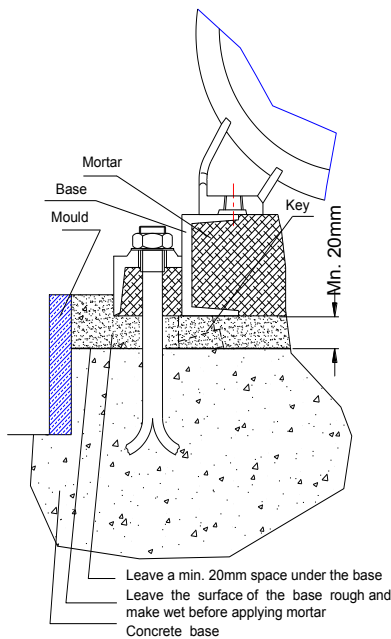

Figure 2. A typical concrete foundation
- Install the pump on the concrete base as illustrated in Figure 2